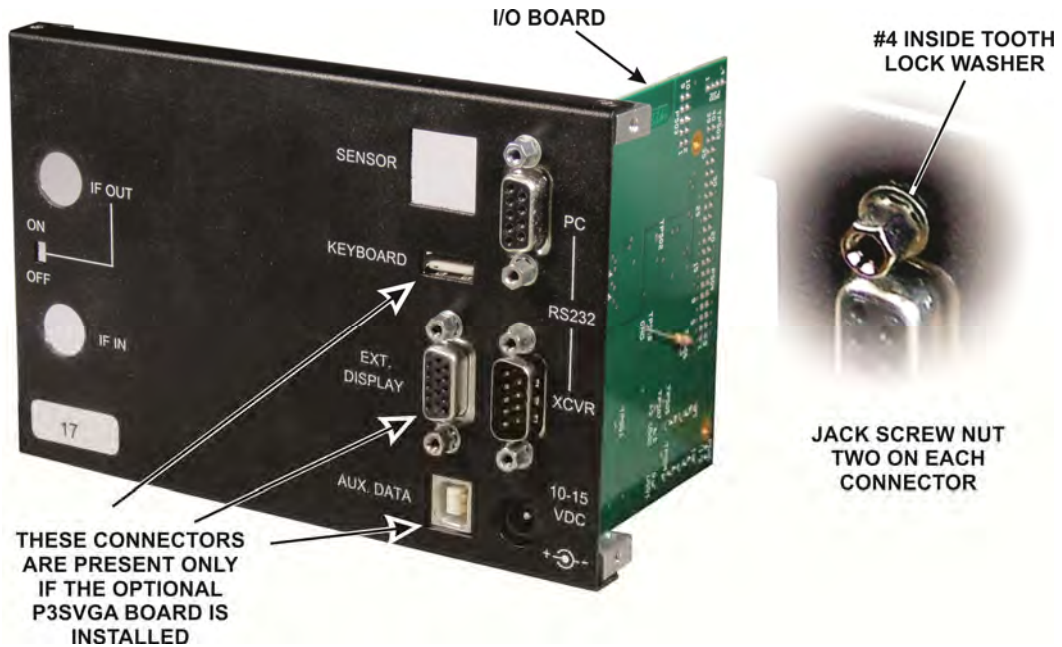

Figure 16. I/O Board Installed.
□ Mount the I/O board on the rear panel with the connectors in the RS232 PC and XCVR holes as shown in Figure 16. It is held in place by the jack screw nuts as shown.